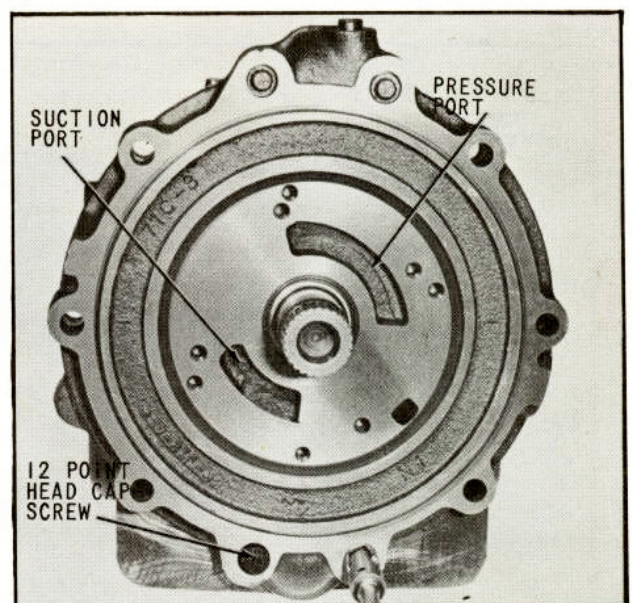

Fig. 58 Mounting Adapter to Case
adapter is squarely in place, install the four (4) cap screws, as shown in (Fig. 58). The adapter can now be pulled down squarely, until contact with the case is made, by alternately tightening the cap screws a small amount and checking frequently for binding. When adapter is pulled down as far as possible, tighten the four (4) cap screws to 27 to 37 pounds-feet torque.
64. Place parts assembled in steps 1 through 59 inclusive as shown in (Fig. 58), after inspecting the adapter face for dirt and obstructions.